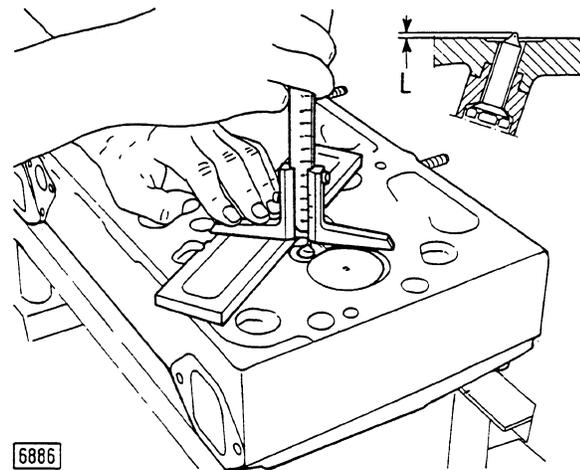

Fig. 8 - Checking injector protrusion on cylinder head deck.
- nozzle protrusion (L) above the deck is as per fig. 8 ;